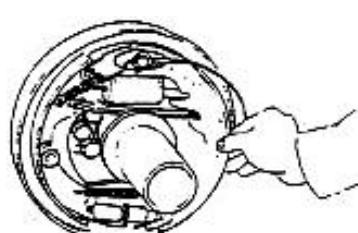

Figure4
(4) Remove the main brake shoe and the auxiliary brake shoe, Remove the adjuster and adjuster spring at the same time ,as figure 4